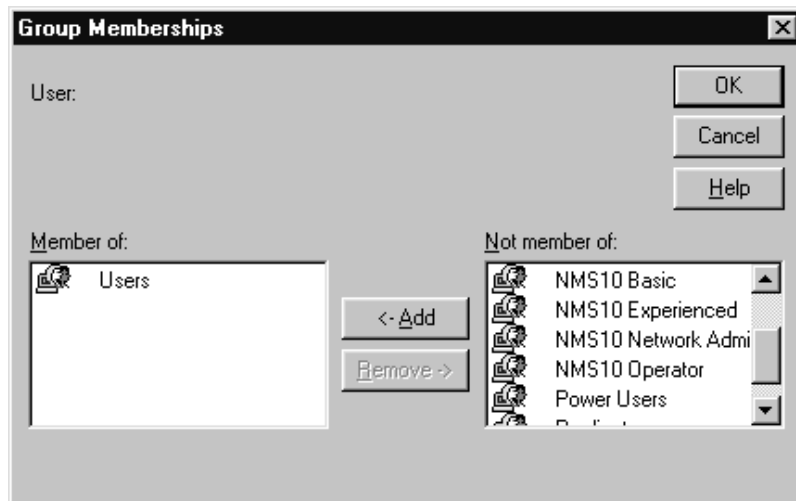

Figure A-4 Group Memberships dialog box
3. Select **Properties...** from the **User** menu. Click **Groups**. The **Group Memberships** dialog box will be displayed as shown in Figure A-4. If you are adding a new user, the four user access levels will already be listed in the **Not member of** list box. If you are editing the access level of an existing user, their current user access level will be shown in the **Member of** list box.